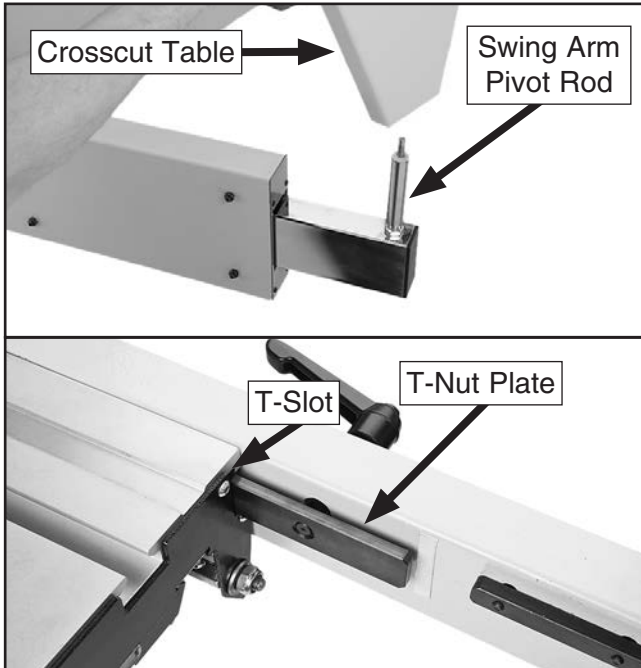

Figure 44. Attaching crosscut table to machine frame.
36. With assistance from other people, place crosscut table on swing arm pivot rod and slide T-nut plate into sliding table T-slot, as shown in **Figure 44**.